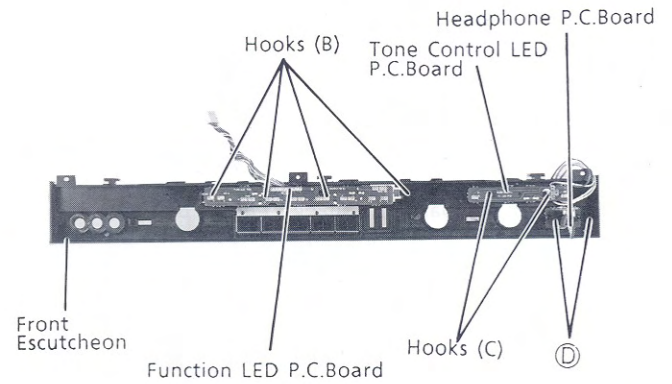

Figure 5
- (1) After removal of Front Escutcheon, remove four hooks (B) as shown in Figure 5.
- (1) After removal of Front Escutcheon, remove two hooks (C) as shown in Figure 5.
- (1) After removal of Front Escutcheon, remove two screws marked "Ⓞ" as shown in Figure 5.